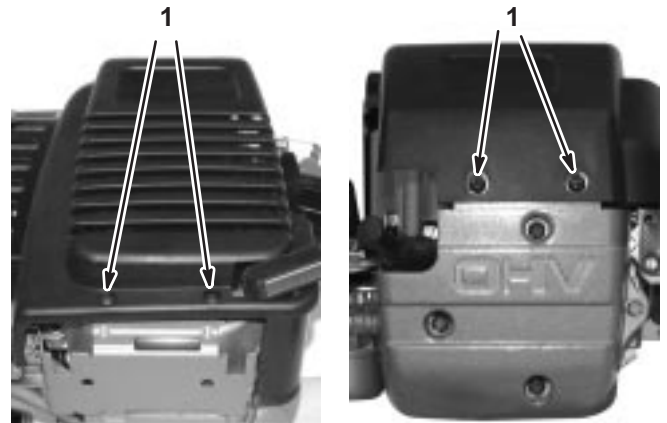

Fig. 68 – Removing Blower Housing Cover
2. Remove four (4) screws from rewind cover, Fig. 68. Remove cover.